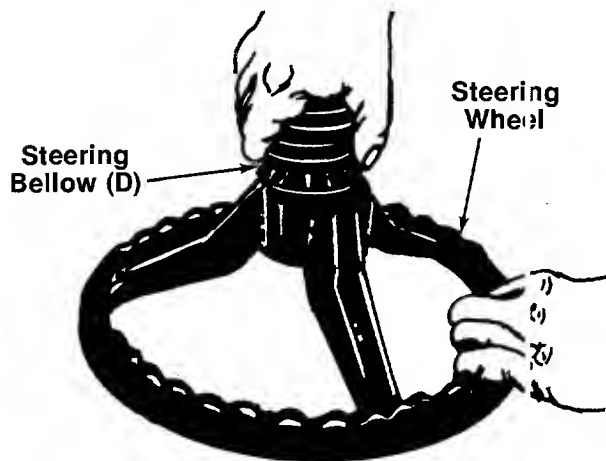

FIGURE 11.
2. Attach steering bellow (D) to the steering wheel as shown in figure 11.